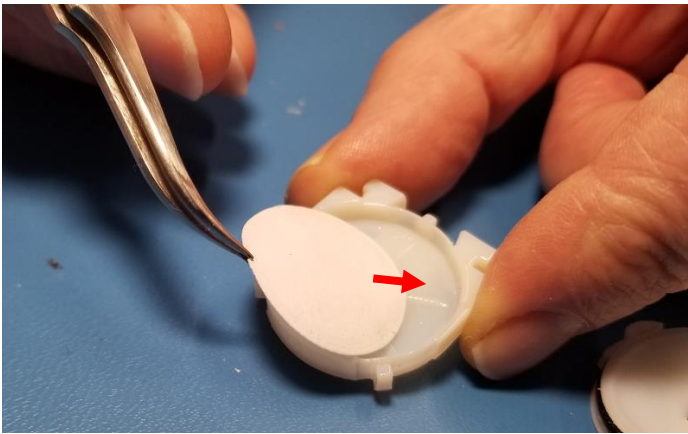

Figure 13. Installing Filter with Tweezers
2. If gravimetric or sampling analysis is desired, use tweezers to place the 25 mm sampling filter in the cavity. **See Figure 13.**